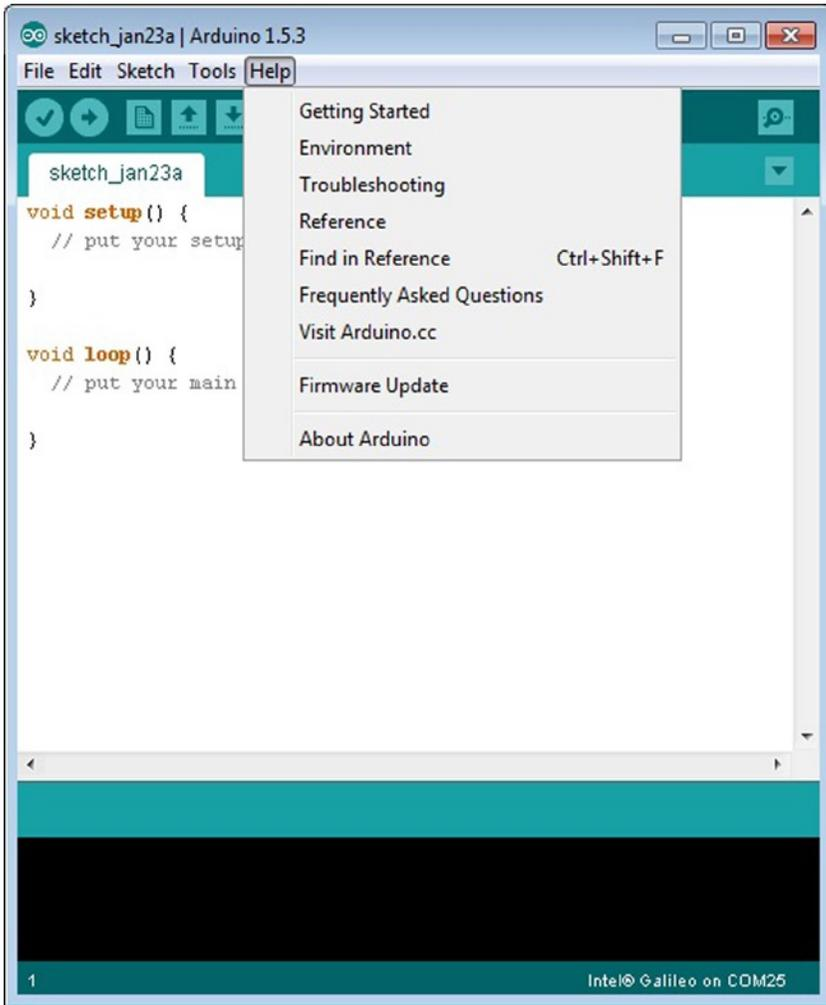

Figure 3-15. Firmware Update option in the Help menu
6. Select Help ► Firmware Update, as shown in Figure 3-15.